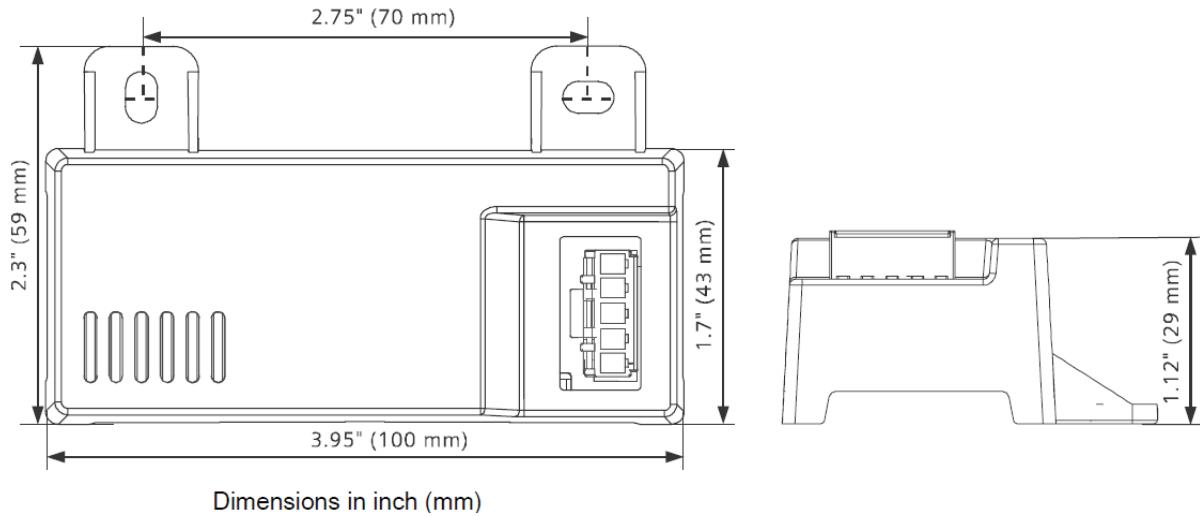
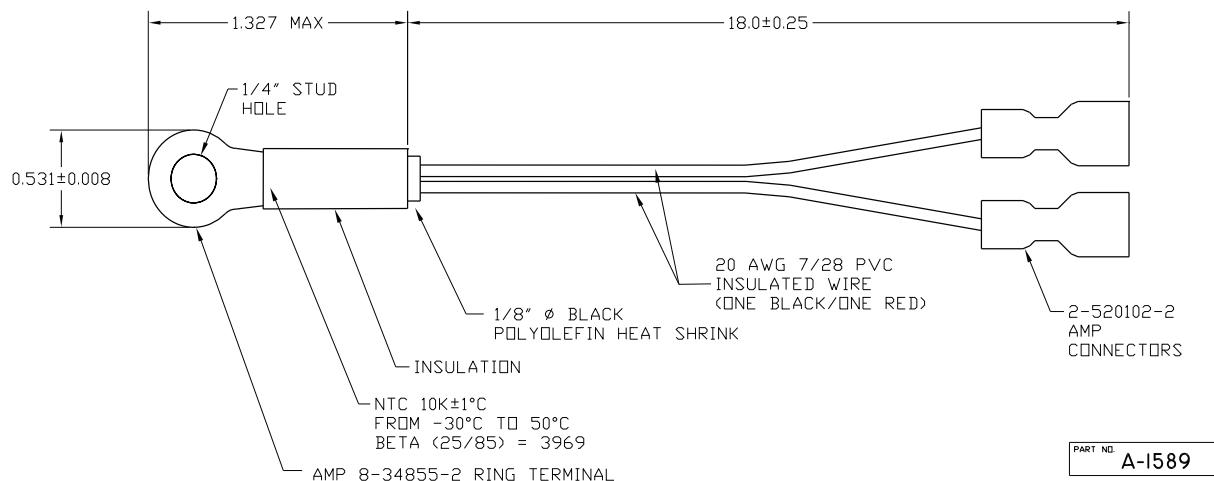
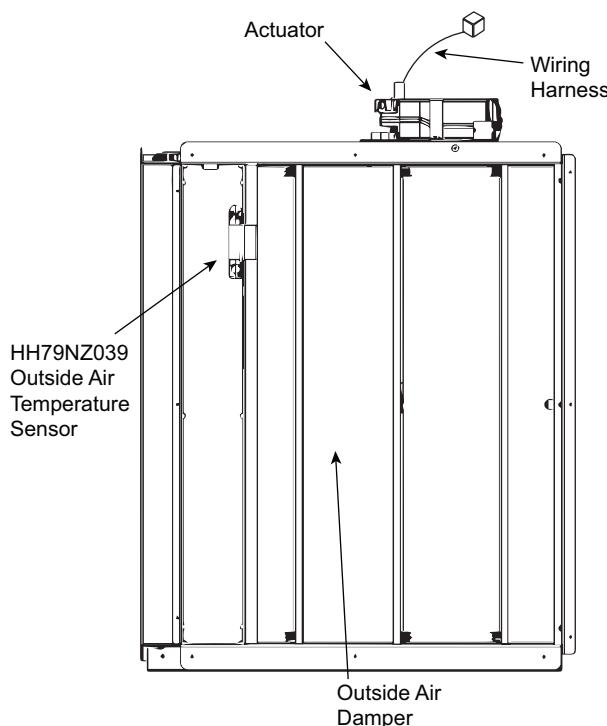

Fig. 70 — HH57LW001 Dimensional, Connection and Switching Information
Fig. 71 — HH79NZ039 Dry Bulb and Mixed Air Sensor Wiring
Fig. 72 — EconomizerONE Component Locations (CRECOMZR108A00 Shown)
When using the HH57LW001 enthalpy sensor (see Fig. 70) for outside air changeover, the existing HH79NZ039 dry bulb sensor (see Fig. 71) must be removed. The enthalpy sensor will be mounted in the same location as the dry bulb sensor (see Fig. 72). When the enthalpy sensor's OA (Outside Air) temperature, enthalpy, and dew point are below their respective setpoints, the outside air can be used for free cooling. When any of these are above the setpoint, free cooling will not be available. Enthalpy setpoints are configurable and create an enthalpy boundary according to the user's input. For additional details, see Fig. 73-74 and Table 28.
The optional enthalpy control sensor (P/N: HH57LW001) communicates with the POL224 economizer controller using the 5-wire harness, 48TC005213. The HH57LW001 sensor can be used as a single outside air enthalpy, a differential return enthalpy, or a differential return temperature sensor. Refer to the base unit control wiring diagrams found earlier in this book to wire the HH57LW001 enthalpy sensor for each option. Use Fig. 70 and Table 30 on page 50 to locate the wiring terminals for each enthalpy control sensor.
Economizers are shipped standard with an HH79NZ039 outside air dry bulb sensor (see Fig. 71). System default setting (high temp limit) is 63°F (17°C) and has a range of 48°F to 80°F (9°C to 27°C). Sensor is factory installed on economizer.
If installing the optional HH57LW001 enthalpy sensor, the HH79NZ039 dry bulb outside air sensor must first be removed. Wire sensor to harness 48TC005213 and the (5) wires from the harness to the EconomizerONE harness in the return air chamber. Harness 48TC005213 has a 5-pin plug that connects directly to the HH57LW001 enthalpy sensor. Refer to the base unit control wiring diagrams earlier in this book for wiring connections. Refer to Fig. 70 and Table 30.